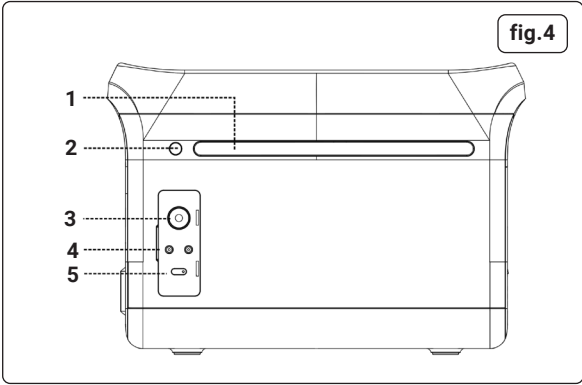

Figure 4 Key
• DC OUTPUT (fig.4)
- **BATTERY CHARGING PROCESS** (fig.4)